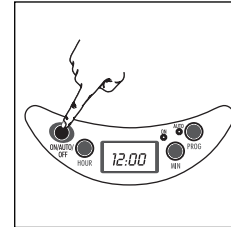

fig. 7
- Press the "ON/AUTO/OFF" switch (fig. 7). The "ON" indicator light above the switch indicates operation of the filter coffee maker.